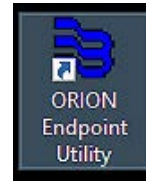

Figure 4: Shortcut
1. Double-tap the ORION Endpoint Utility shortcut (Figure 4) on the desktop to open the software.